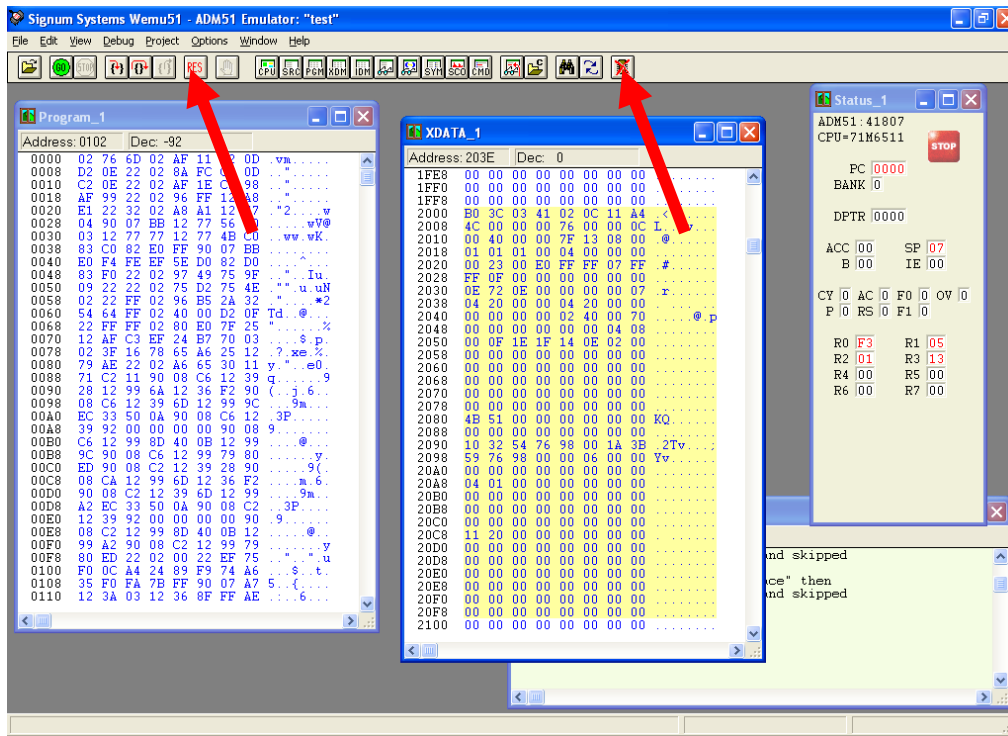
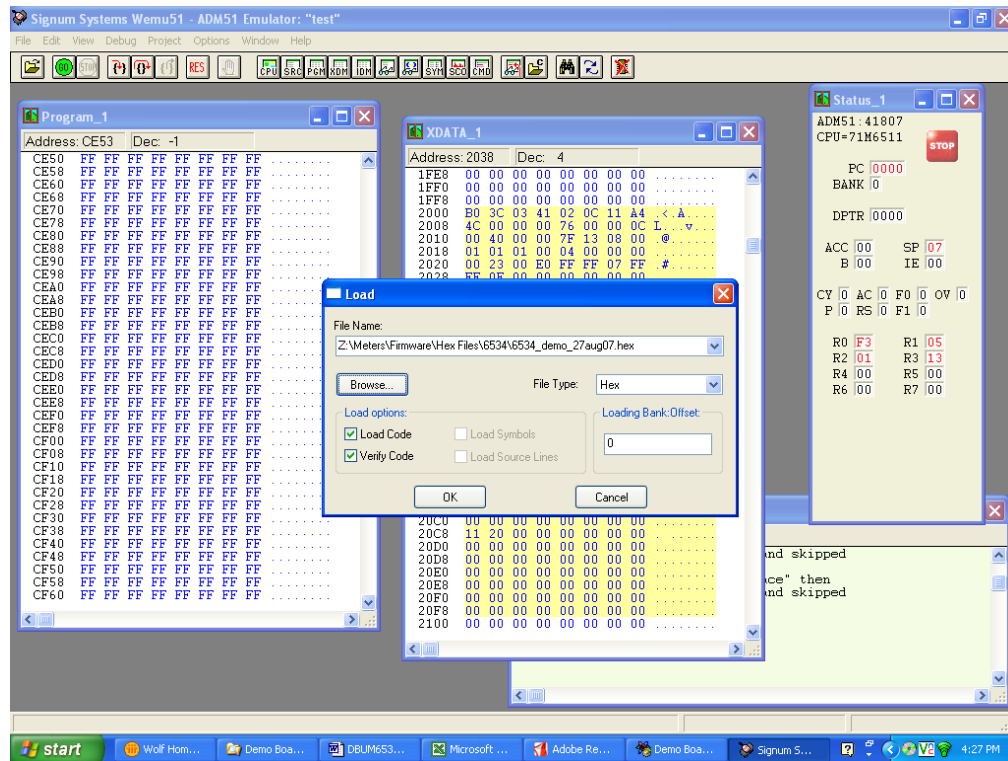

Figure 1-7: Emulator Window Showing Reset and Erase Buttons (see Arrows)
Figure 1-8: Emulator Window Showing Erased Flash Memory and File Load Menu
**In-Circuit Emulator:** If firmware exists in the 71M6533 flash memory; it has to be erased before loading a new file into memory. Figure 1-7 and Figure 1-8 show the emulator software active. In order to erase the flash memory, the RESET button of the emulator software has to be clicked followed by the ERASE button ().
Once the flash memory is erased, the new file can be loaded using the commands File followed by Load. The dialog box shown in Figure 1-8 will then appear making it possible to select the file to be loaded by clicking the Browse button. Once the file is selected, pressing the OK button will load the file into the flash memory of the 71M6533 IC.